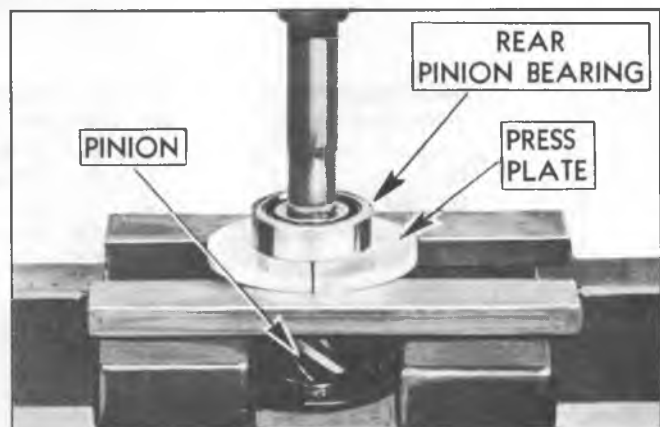

Fig. 4F--Pinion Rear Bearing Removal (11,000 Lb. Axle)
5. On the 11,000 lb. axle, remove pinion rear bearing snap ring and press bearing from pinion, using Tool J-1453 (fig. 4F).